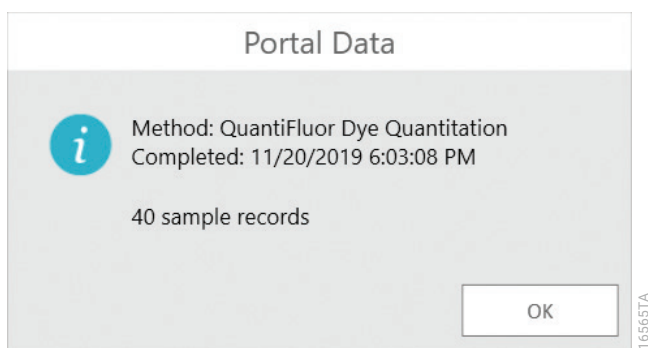

Figure 45. ‘Portal Data’ summary screen. The ‘Portal Data’ screen presents a summary of the data that was retrieved from the Portal software.
6. If the search is successful, a ‘Portal Data’ summary screen is shown indicating the method that was used to create the plate map, the date on which the method was completed and the number of samples on the plate (Figure 45). Tap the **OK** button to dismiss the ‘Portal Data’ screen